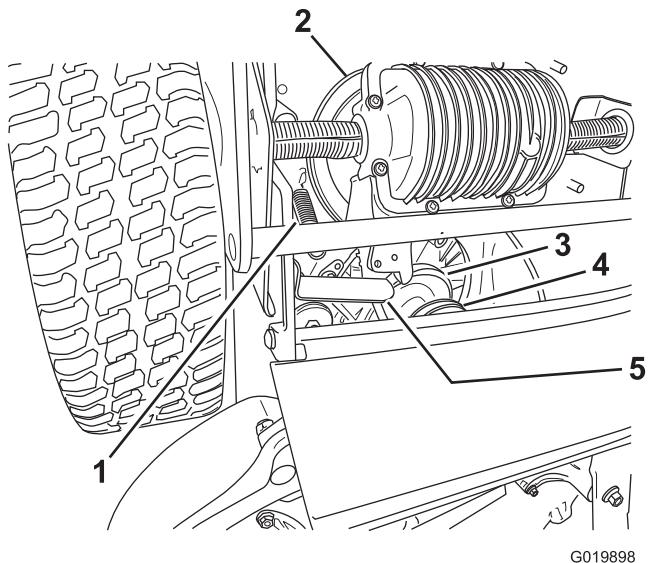

Figure 41
8. Move the tab forward (Figure 41).